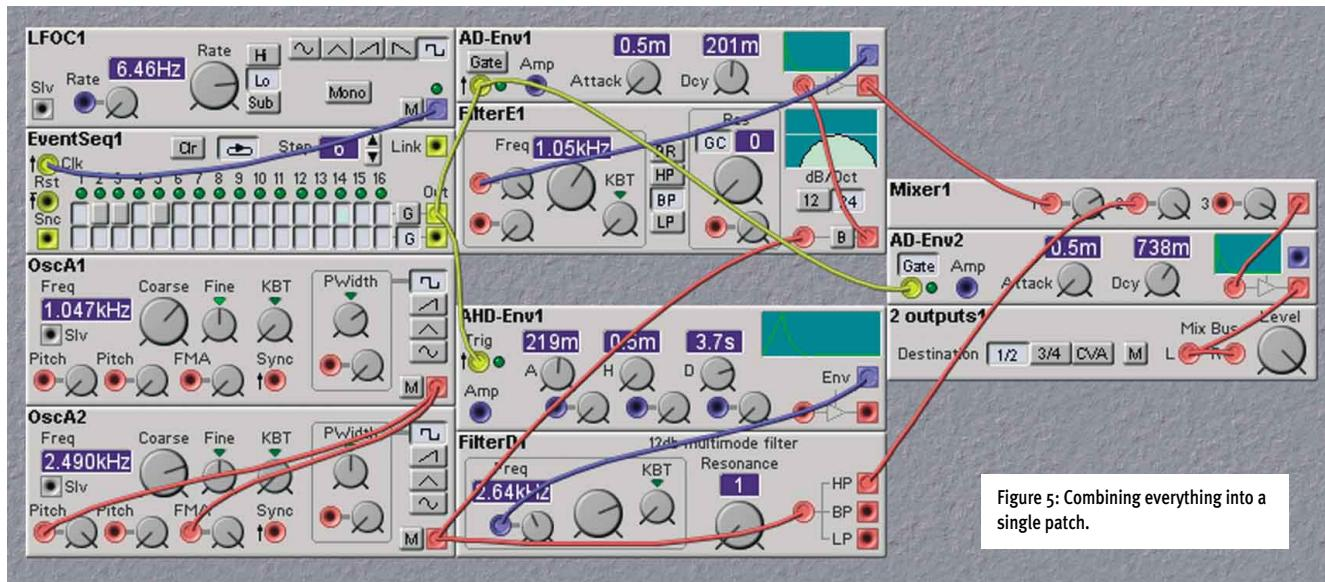
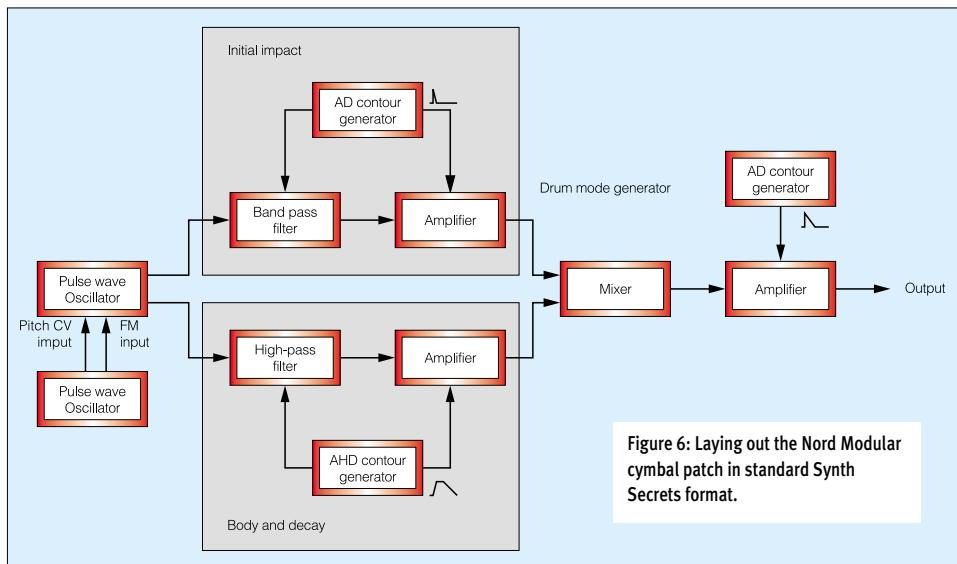

Figure 5: Combining everything into a single patch.
Figure 6: Laying out the Nord Modular cymbal patch in standard Synth Secrets format.
Having created the two signal paths, I have combined them as shown in Figure 5 on the next page, using the 'Mixer1' module to mix the elements in suitable proportions. You will note that I have given the tail a greater amplitude than the 'ping', and again this is simply because it sounds correct.
Figure 6 (below) now shows the sound-generating modules from Figure 5, but drawn in standard Synth Secrets format, so that you can apply this patch yourself to something other than the Nord Modular. You can see the dual signal paths, with the upper path creating the 'ping' and the lower the extended tail of the sound.
But what if you don't own a big modular synth — analogue or digital? Does this mean that cymbal sounds are forever beyond your reach? Next month, we'll look at Figure 6 in closer detail and, as we have done before, see whether we can simplify the patch sufficiently to create convincing cymbal sounds on low-cost analogue synths. Until then... SOS
► sequencer clocked by an LFO. You can see these in the upper-left corner of Figure 5. If you look closely, you can see that I have programmed a six-beat sequence with the cymbal triggered every first, fourth and sixth beat. This produces the classic 'tscchhhh t-t tscchhhh t-t tscchhhh' so beloved of jazz and swing drummers, which is a perfect test for a ride-cymbal patch.